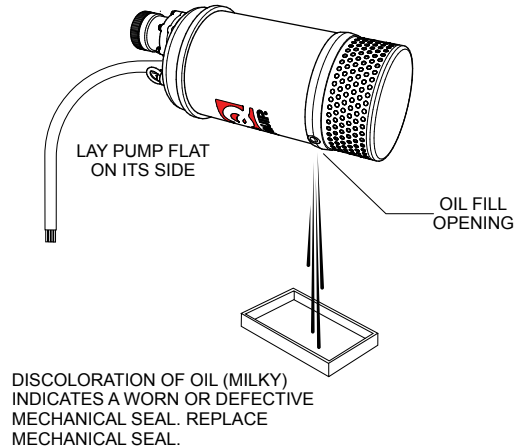

Figure 23. Lubrication Oil Inspection
1. Block the oil fill opening with a finger and roll pump to one side to drain (Figure 23) oil into a small transparent container.